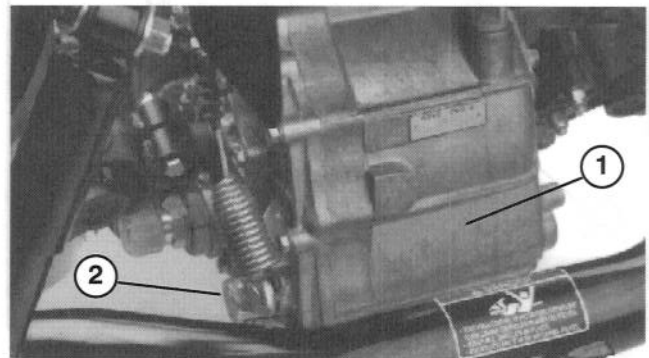

Figure 37
CHANGING TRANSAXLE / HYDRAULIC FLUID (Fig. 37)
2. Remove drain plug (Fig. 37) from side of reservoir and let hydraulic fluid flow into drain pan.